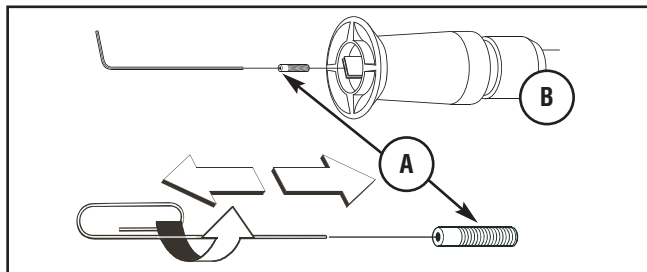

Figure 32— Remove and Clean Orifice
1. Remove orifice (A) from end of nozzle extension. Separate nozzle extension from spray gun. Twist nozzle clockwise to stream position. Using a 2mm (5/64) allen wrench, Remove orifice from end of nozzle extension. (see Figure 32).
2. Remove nozzle extension (B) from spray gun.
4. Use a small paper clip to free any foreign material clogging or restricting orifice (see Figure 32).